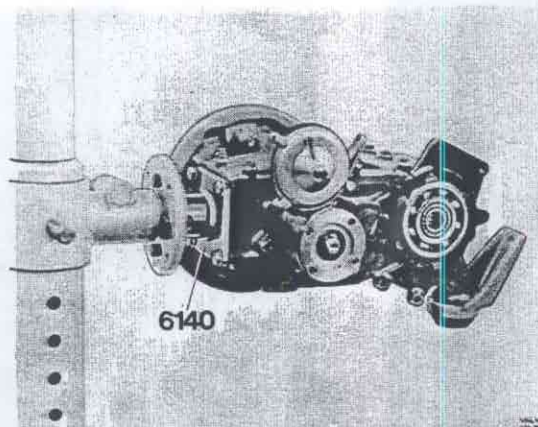

Fig. 43-145. Auxiliary gearbox in vice
1. Place the auxiliary gearbox in fixture 6140 and secure the unit on an overhaul stand, see Fig. 43-145.